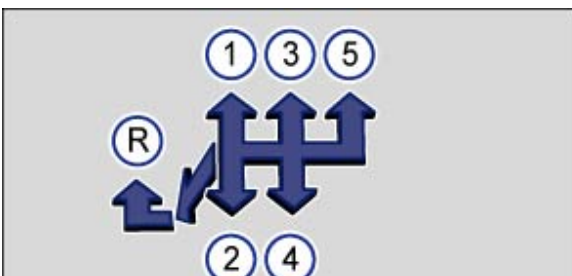
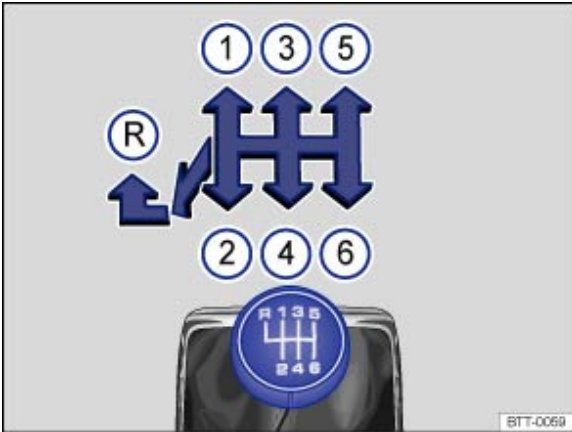

Fig. 140 Gear shift pattern of a 5-speed manual gearbox
Fig. 141 Gear shift pattern of a 6-speed manual gearbox
The positions of the individual driving gears are shown on the gearshift lever → Fig. 140 or → Fig. 141.
- Push the gearshift lever fully to the left and then to the front in the reverse gear position → Fig. 140 ® or → Fig. 141 ®.